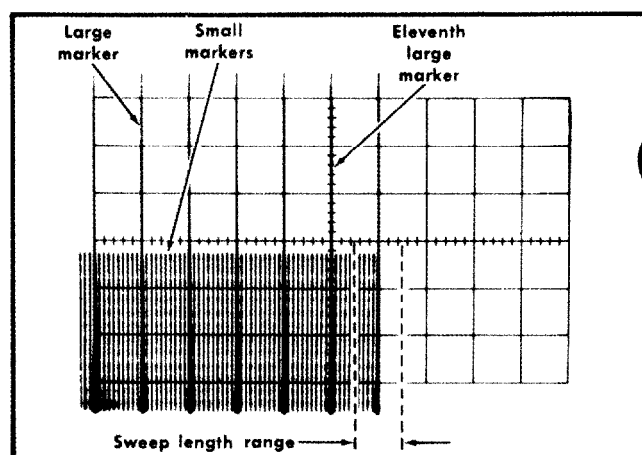

Fig. 6-43. Typical CRT display when checking A and B sweep length.
b. Move the eleventh large marker to the center vertical line with the horizontal POSITION control (see Fig. 6-43).
c. CHECK-B Sweep length must be between 10.5 and 11.5 divisions, as shown by 0.5 to 1.5 divisions of display to the right of the center vertical line (see Fig. 6-43). Large markers indicate divisions and small markers indicate 0.1 division.
- Move the eleventh marker to the center vertical line with the horizontal POSITION control (see Fig. 6-43).